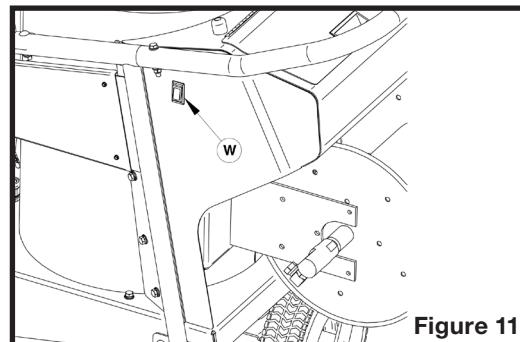

Figure 11
2. Turn on the burner switch (W on figure 11).
1. If the machine is running in hot water pressure washing mode, turn off the burner switch (W on figure 11) and keep water flowing until its temperature is less than 100°F (40°C).